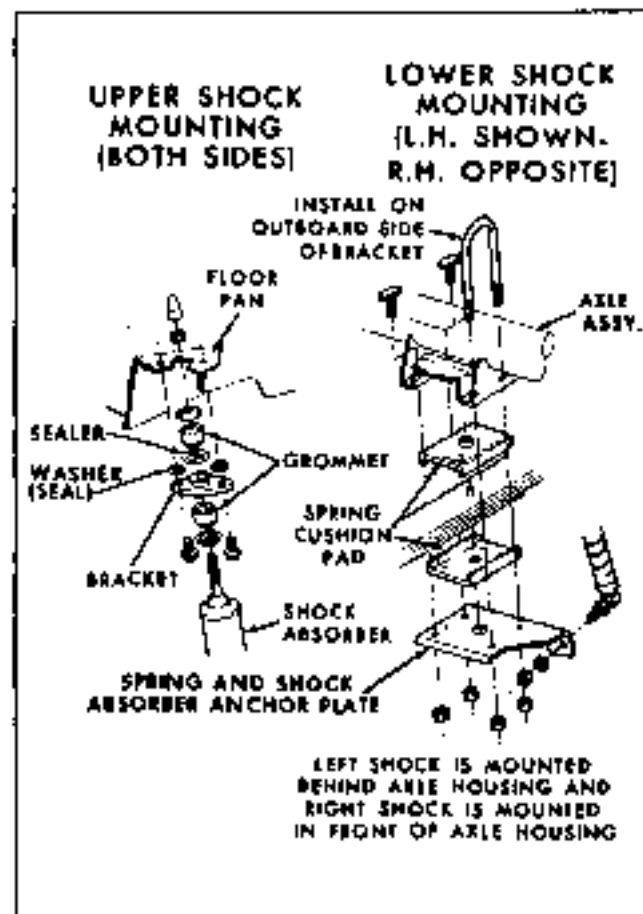

Fig. 4-1 Rear Shock Absorber Installation - Firebird
2. Remove nut and lock washer from shock absorber lower end stud (Fig. 4-1).